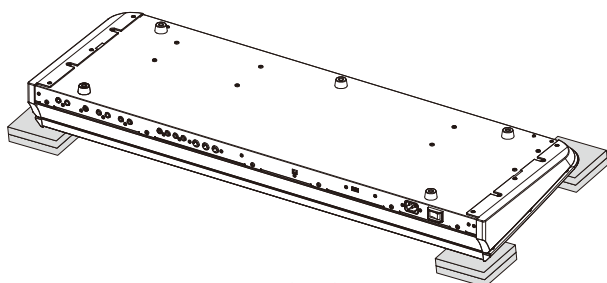

Fig. 1 (図 1)
- \* If you want to turn the unit or control panel assembly upside down, prepare supporting materials and put the unit or control panel on them with the end portions of the unit or control panel placed on the supporting materials. (Fig. 1)
- ※ 本体またはコンパネ Ass'y を裏向きにして作業するときは、両端に枕木を敷いてください。(図 1)